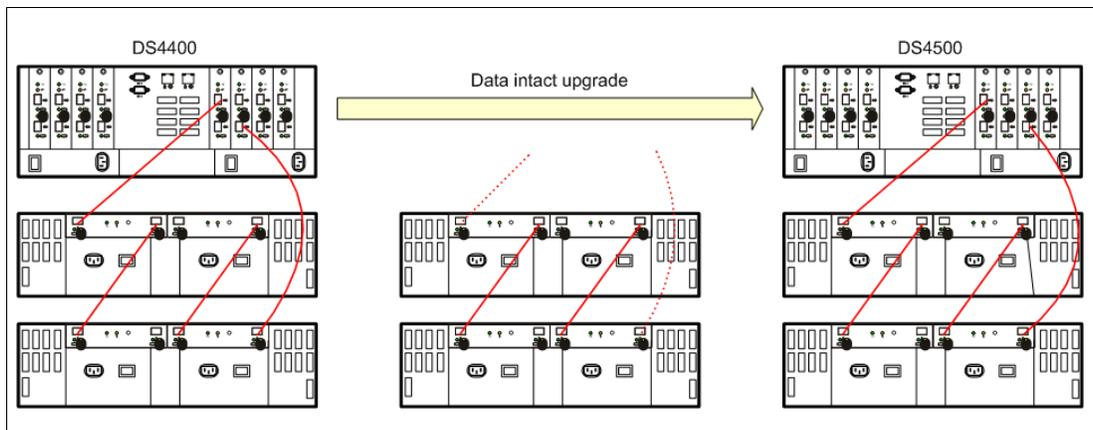
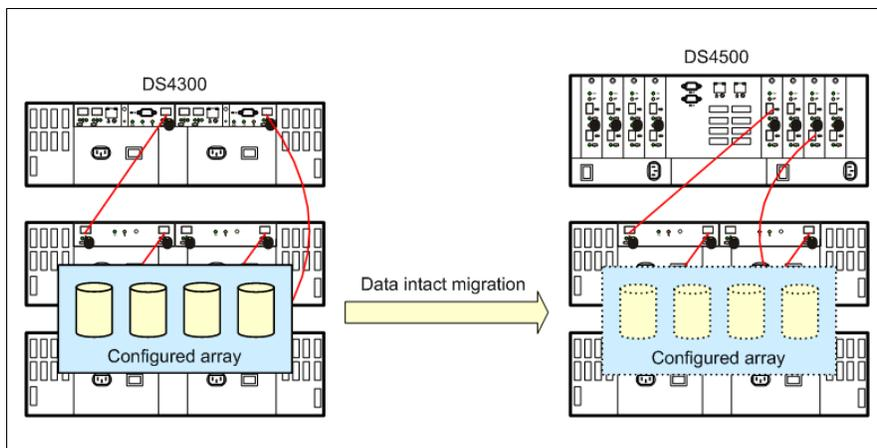

Figure 4-13 Upgrading DS4000 controllers
Figure 4-14 Relocating arrays
- ▶ Data intact upgrades and migrations: All DS4000 subsystems recognize configuration and data from other DS4000 subsystems so that migrations can be for the entire disk subsystem (as shown in Figure 4-13) or for array-group physical relocation (as illustrated in Figure 4-14).